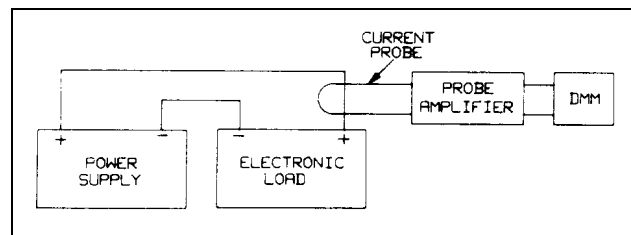

Figure 2-3. Test Setup C
- Connect the Electronic Load, power supply (Agilent 6032A or equivalent, DMM, and current probe as shown in Figure 2-3. Set power supply for 10V and >10A.